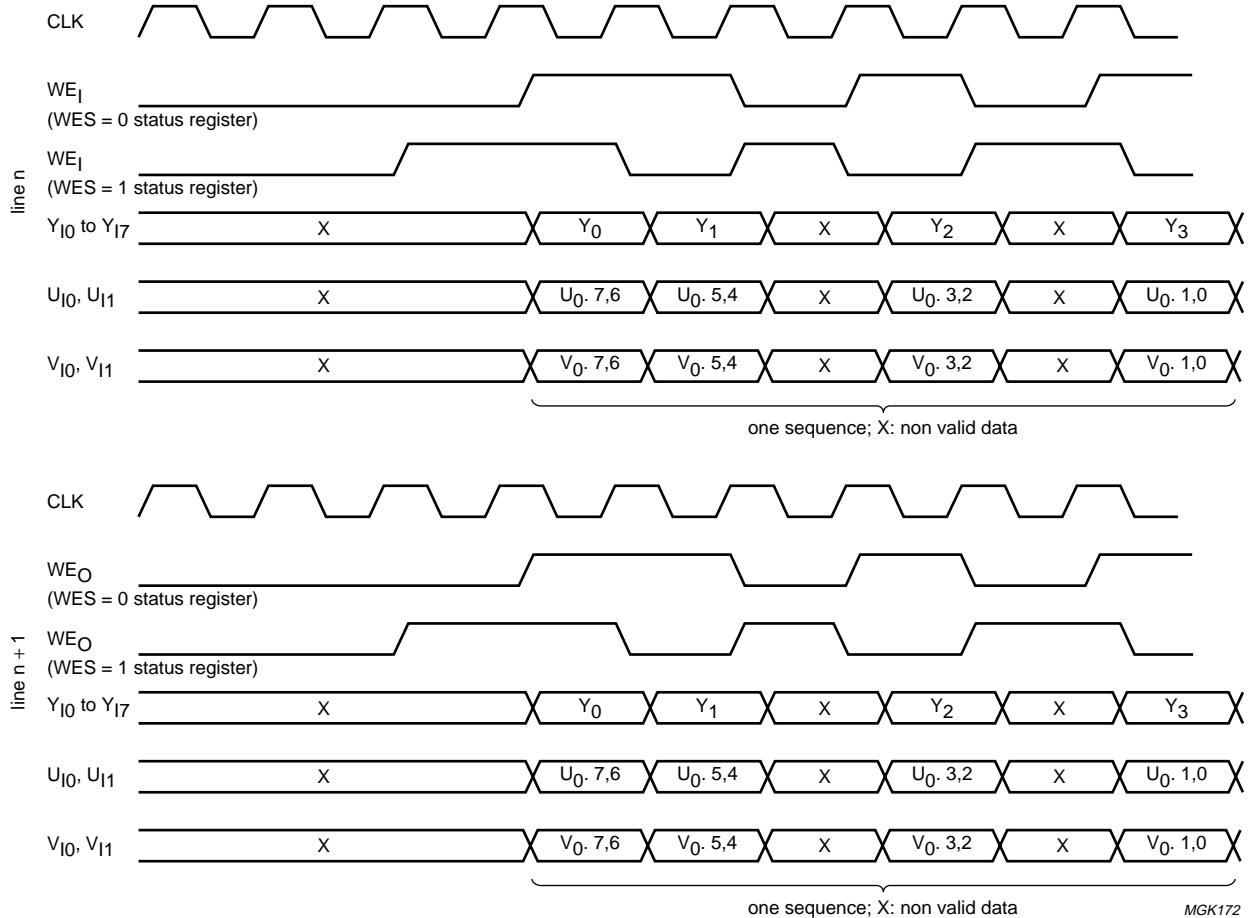

Fig.4 Write enable timing.
- Timing relation (see Fig.4) depending on the logic level of the Write Enable Select signal (WES) in status register; to adapt to different external video memories
- The number of input samples is a multiple of 4 (see Fig.4)
- Start of new line indicated by write enable signal LOW for at least 4 consecutive clock periods (see Fig.4)